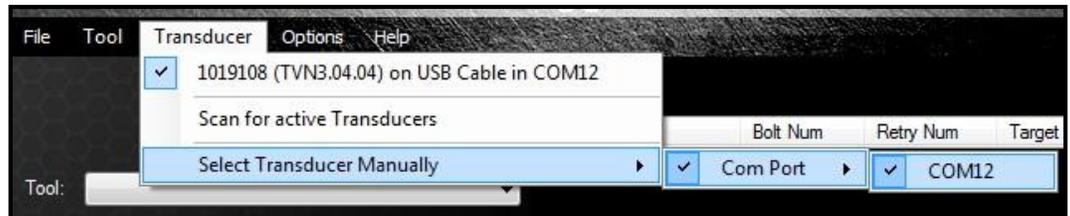

Figure 5.2.2-1: Com Port Selection
6. Within the RT Data Logger Software, select **"Select Transducer Manually"** from the "Transducer" dropdown menu, then select **"Com Port"** (Figure 5.2.2-1).